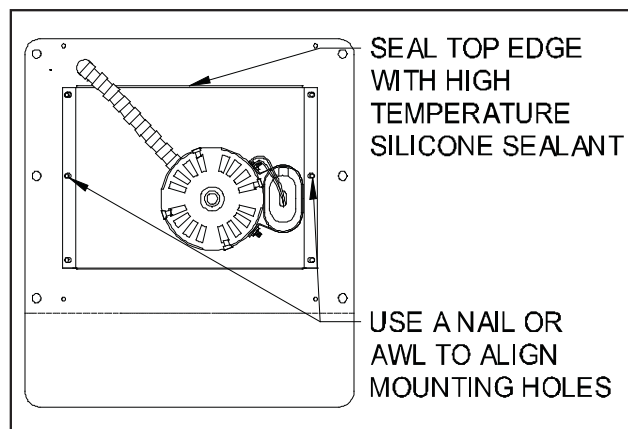

Figure 6
2. Using two nails or awls, align the two center holes of the motor mount bracket and cover plate. Locate the motor assembly into position by sliding the assembly over the mounting holes in the front plate. Use the nails or awls to hold assembly in position. (See Figure 6) Secure motor assembly into position at the four corners, then secure center two holes.